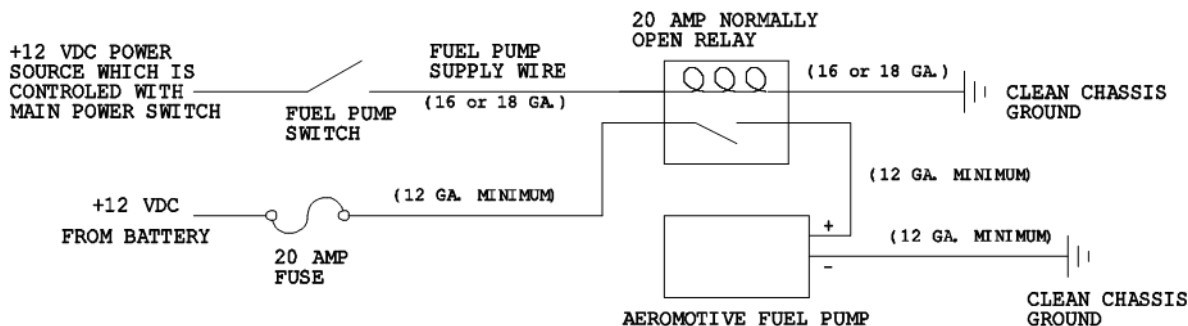

Figure 2-1
38. Prep the new tank by making all the necessary connections (feed, return, vent, and electrical) before placing tank in vehicle. In most cases, once the tank is placed in the vehicle these connections will not be accessible. For electrical wiring refer to **Figure 2-1** on the last page.